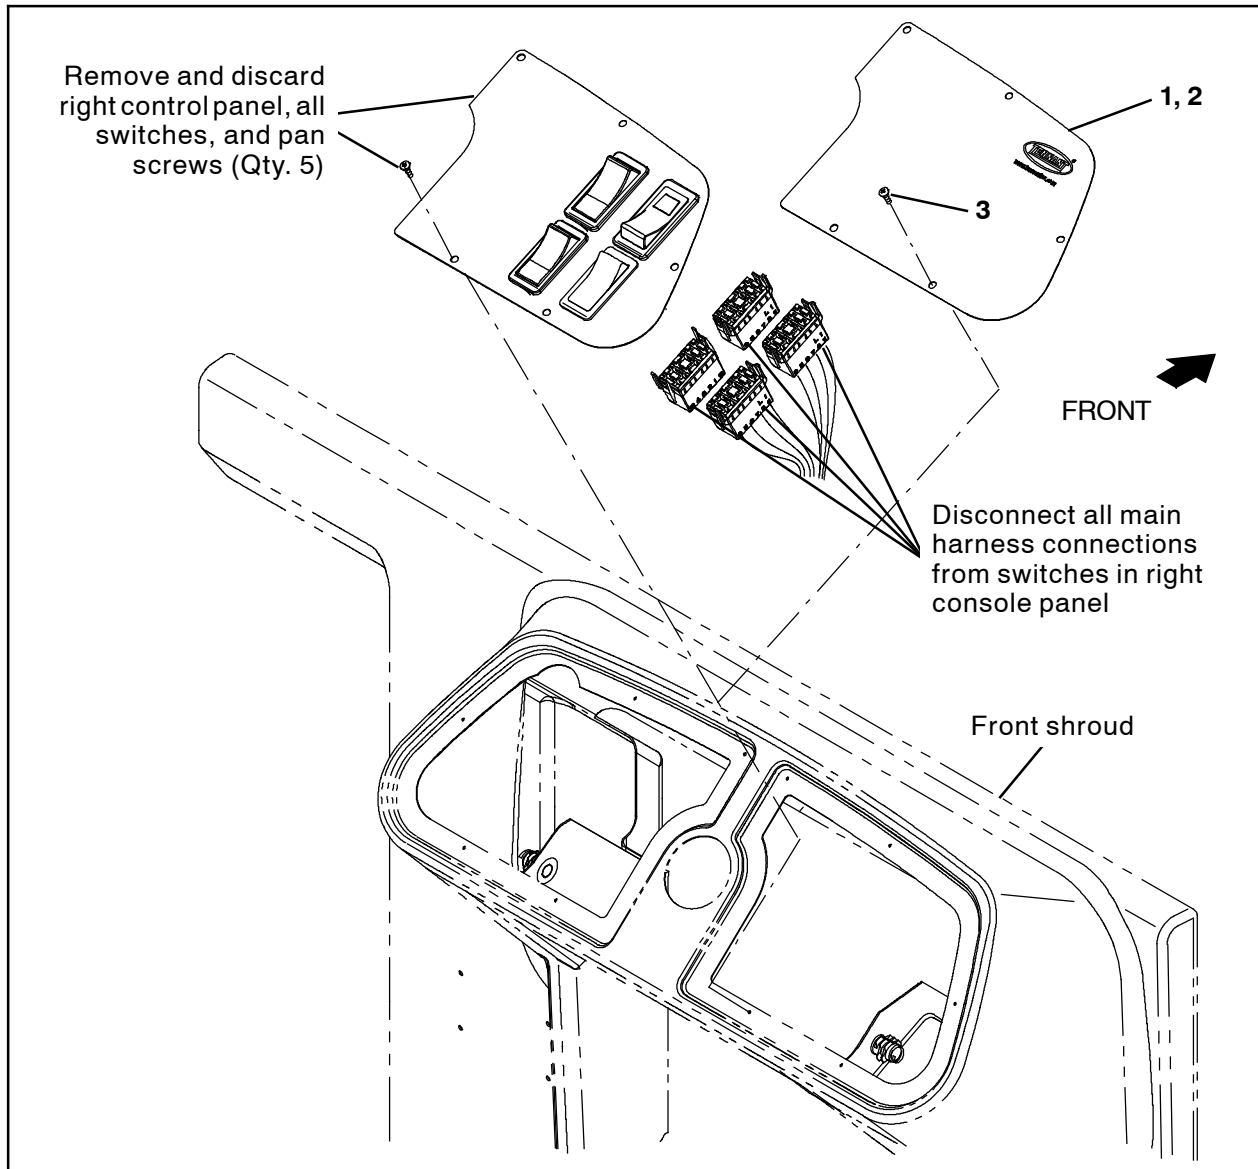

FIG. 3
1. Remove the five pan screws securing the right console panel to the front shroud. Discard the removed pan screws. (Fig. 3)
2. Lift the right console panel from the front shroud and disconnect all wire harness connectors from the right console panel switches. Discard the removed right console panel / switches. (Fig. 3)
4. Use five pan screws (3) to install the new right console panel assembly (1) (2) onto the front shroud. (Fig. 3)